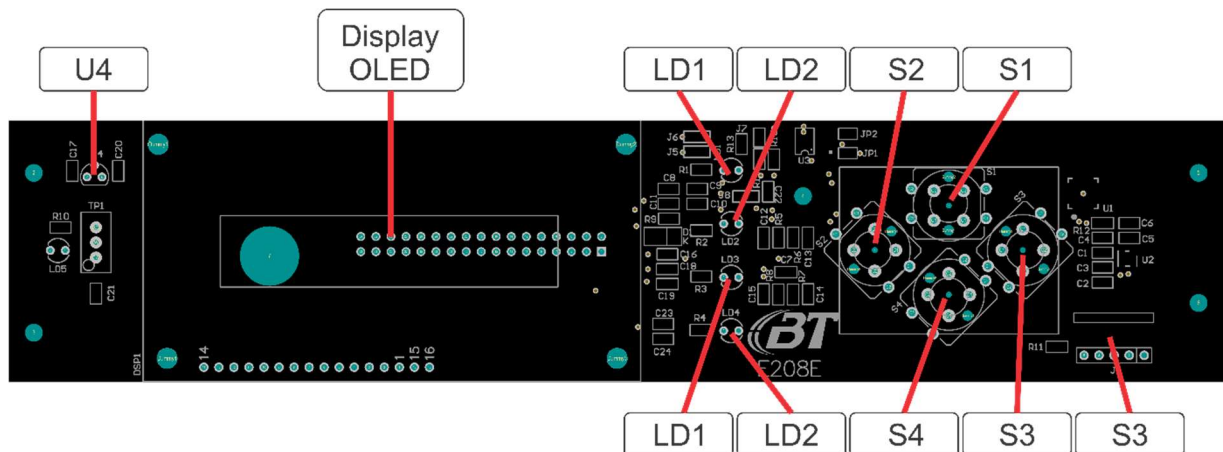

Figura 17: Painel Frontal – E208E
2.5.4 Painel frontal, E208E, Figura 17.